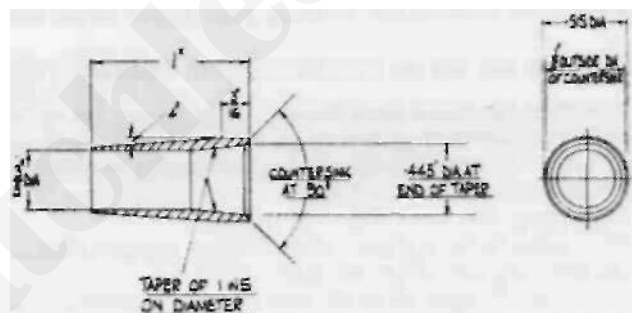

FIG. 17
**Camshaft bushes.** These rarely wear, do not be misled by wagging the camshaft supported in the back bush only, the bush is short and some movement will be manifest even with a new bush. Press in new bushes from inside the crankcase with oil holes lined up. Both bushes are located flush with the crankcase. When new they should be reamed *in situ* to  $\frac{1}{2}$ " + .0005" - .0005". If new bushes are used assemble the camwheels, fit the timing cover tightly and check camwheel for end float and free movement. Use a shim washer 016847 to absorb end movement. End play can dislodge the metal cap on timing cover by hydraulic. Renew the oil seal (see Fig. 17 for tool used for fitting).
**Refitting the timing gear cover.** If there is evidence of oil in the contact breaker compartment, the oil seal 024287 should be replaced. To prevent damage to the oil seal during the process of refitting the cover, a guide tool is shown in Fig. 17. The tool is fitted over the shaft for the cam wheel, with a little oil on it to guide the seal over the shaft. The seal should be fitted in the cover with the metal backing facing outwards. Clean the face of the cover and stick a new gasket to it. The cover 024016 can now be put back with three screws 000482.